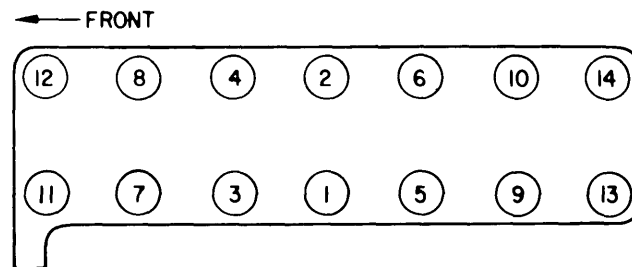

Fig. 1 Cylinder Head Tightening Sequence.
2) Insert head bolts and tighten ① and ② to 7-12 ft. lbs. (1.0-1.6 mkg). Install and align sprockets and timing chain. Install remaining components in reverse order of removal, using new seals, gaskets and sealant where required.
3) Tighten head bolts in several steps in the sequence illustrated in Fig. 1 to final specified torque. Recheck torque after engine has been running for several minutes.